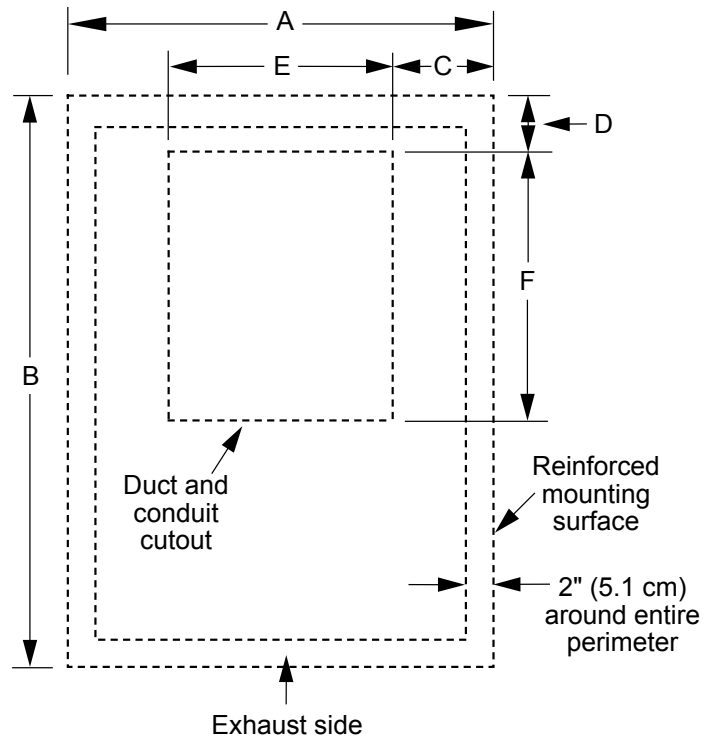

Figure 1: Required Mounting Surface Dimensions
- The mounting location needs to allow for a cutout under the unit for the duct and wiring/conduit to pass through the wall or roof into the blower assembly. See **Figure 1**.
- The unit requires a mounting surface thick enough to accommodate the 8, 2 1/2" (6.4 cm) long mounting screws (provided). All contact surfaces between the blower and any mounting surfaces must be solid and at right angles. See **Figure 1** for the required mounting surface dimensions.
2. Make a cutout in the center of the mounting location according to **Figure 1** on the facing page.